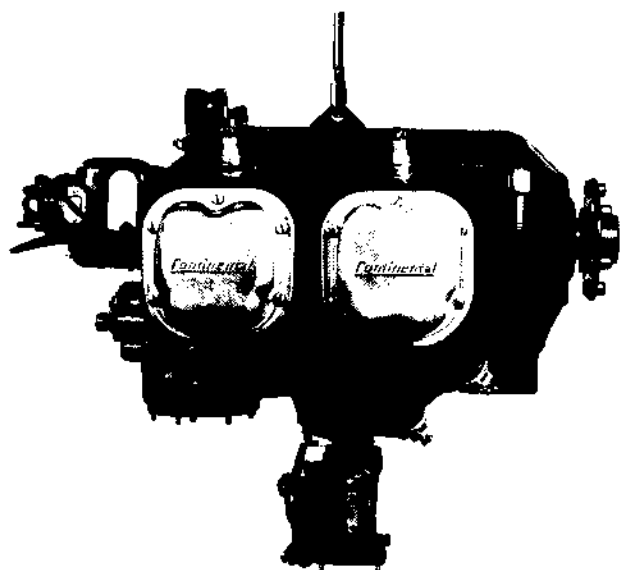

Figure 9. Hoisting Engine with Crankcase Lifting Eye.
a. A lifting eye is permanently attached to the crankcase upper flange by the third and fourth screws from the rear. A hook, such as that supplied by the Borroughs Tool Company, may be engaged to the lifting eye hole and the hoist attached to it for lifting the engine in the flight attitude. See figure 9. A special hoisting older engines not equipped with the crankcase lifting eye.